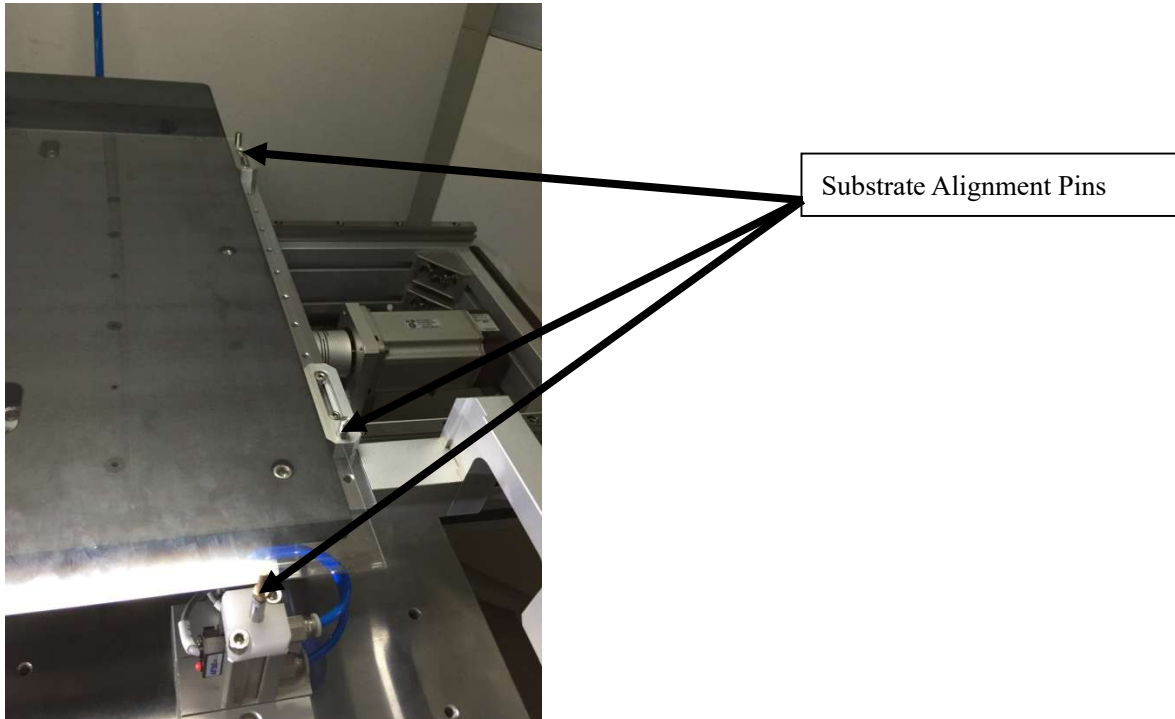
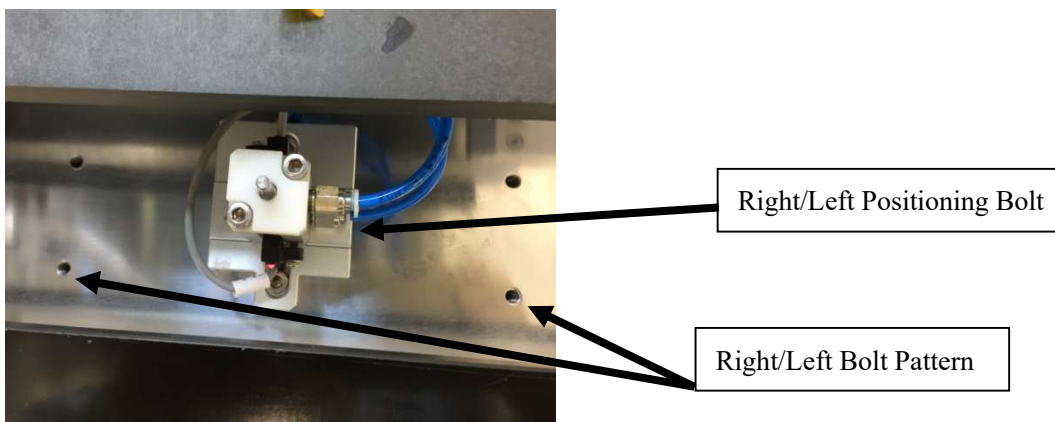

Figure 3.1
Figure 3.2
5.5 There are three substrate alignment pins that align the glass substrate to the quartz back-up bar and are shown in Figures 3.1 and 3.2. The pins on the right side of the substrate can be moved/adjusted by loosening the two bolts and moving the pins. The bottom pin (Limit Stop Pin) can be moved backwards/frontwards by loosening and tightening the two bolts and can be moved right/left by moving the fixture to one of the two other bolt patterns or by adjusting the positioning bolt shown in Figure 3.2.